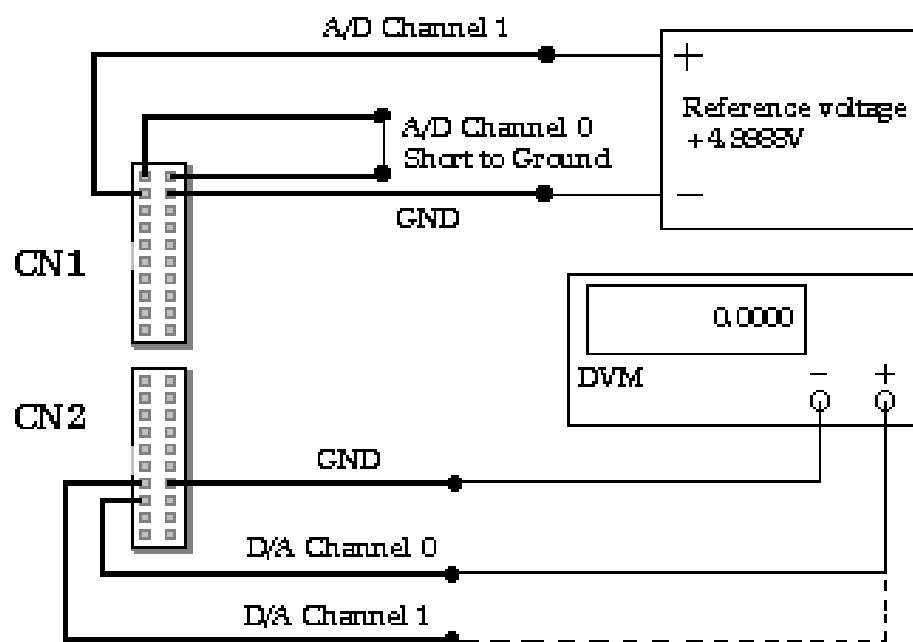

Fig. 3-2 Calibration wiring diagnostics
1. Refer Fig. 3-2 Wiring diagnostics
1. Refer Fig3-2 wiring diagnostics